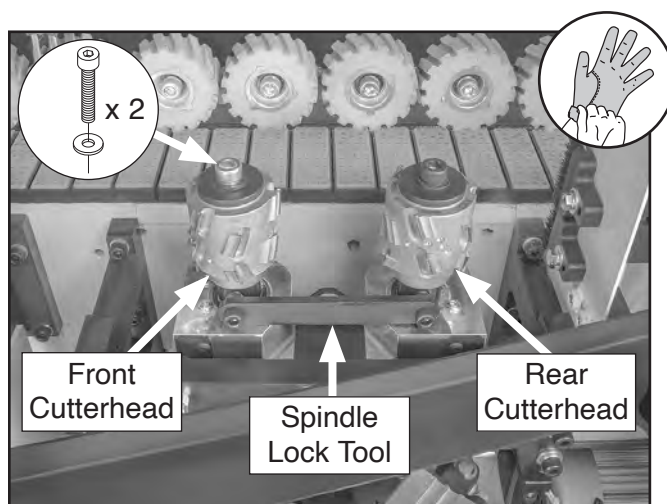

Figure 85. Cutterheads with spindle lock tool inserted.
4. Insert spindle lock tool into spindle holes below cutterheads and remove (2) cap screws and flat washers, then remove cutterheads (see **Figure 85**).